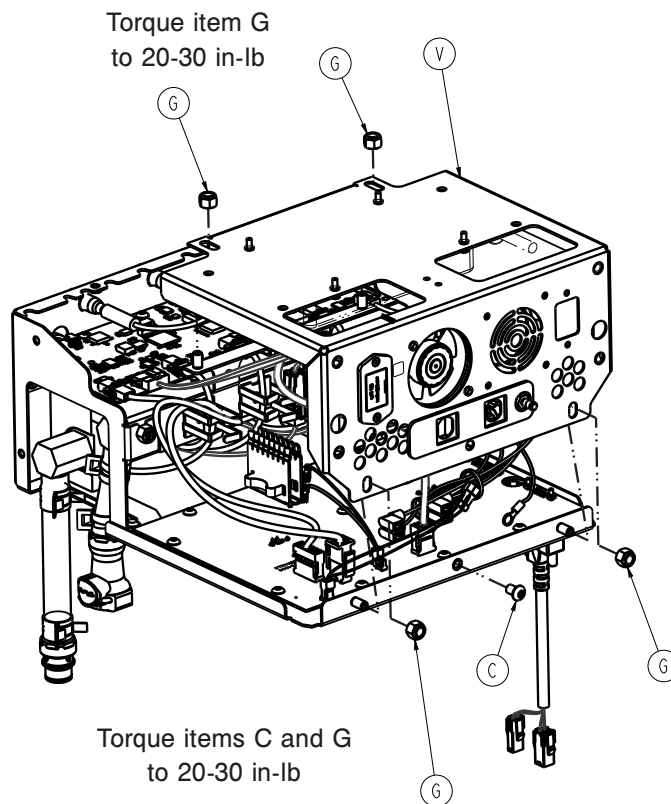

Figure 37: Lock nuts
16. Using 7/16" socket, remove the 2 lock nuts (G) that secures the manifold assembly to the control assembly. (Figure 37 on page 52)